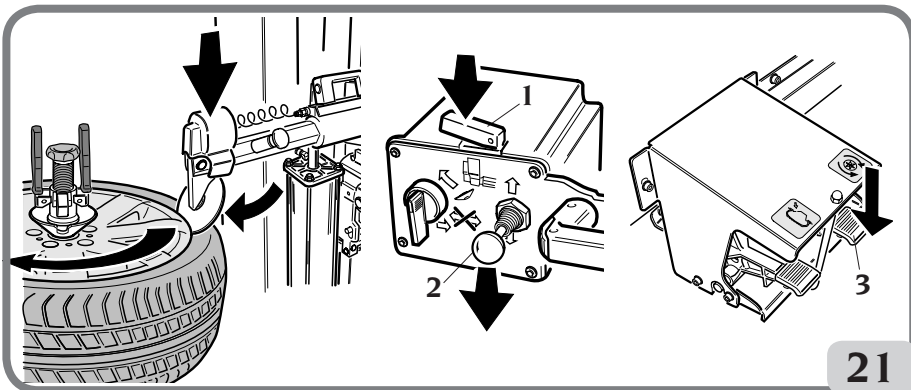

Fig. 21), while at the same time lowering the bead breaker disc a little at a time (using
- Preload the bead breaker disc using control (2, Fig. 21). The tyre should be pressed down by about 5 mm.
- Start disc penetration (1, Fig. 21) and then start wheel rotation (3,
control  (2, Fig. 21).
control  (1, Fig. 21).